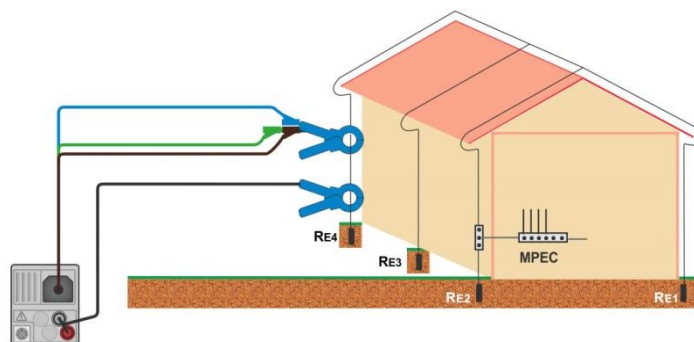

Figure 7.61: Contactless earthing resistance measurement
- › Clamp on object under test, see **Figure 7.61**.